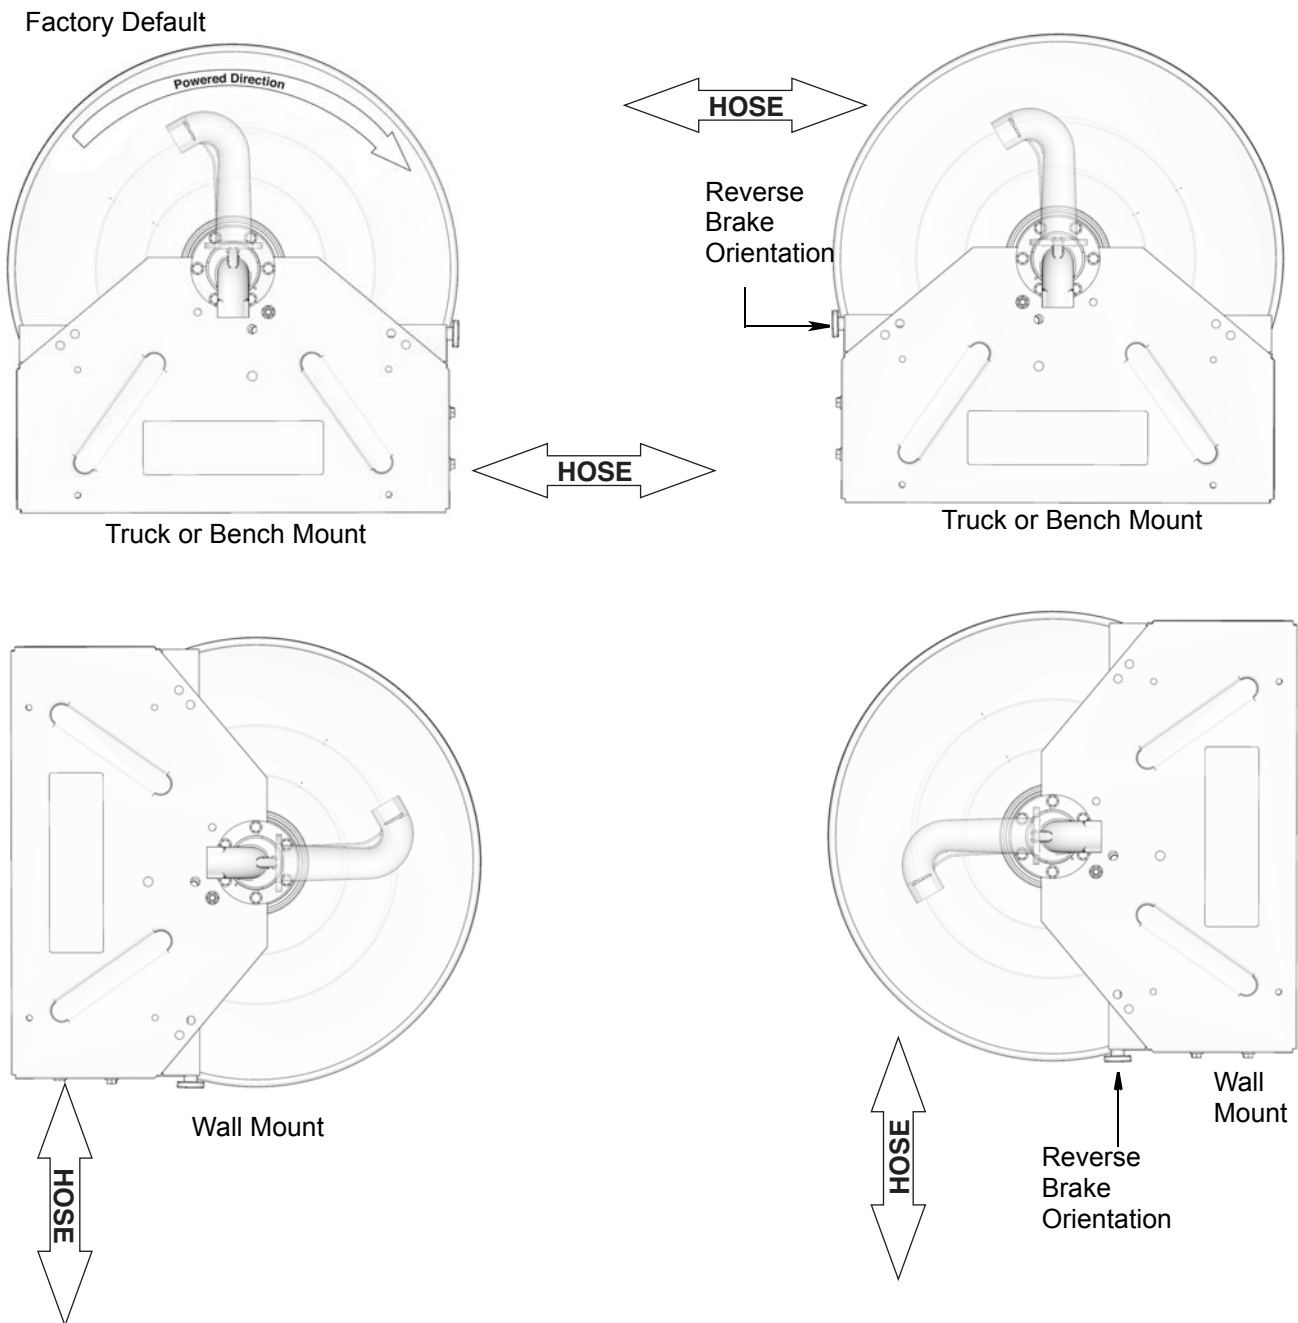
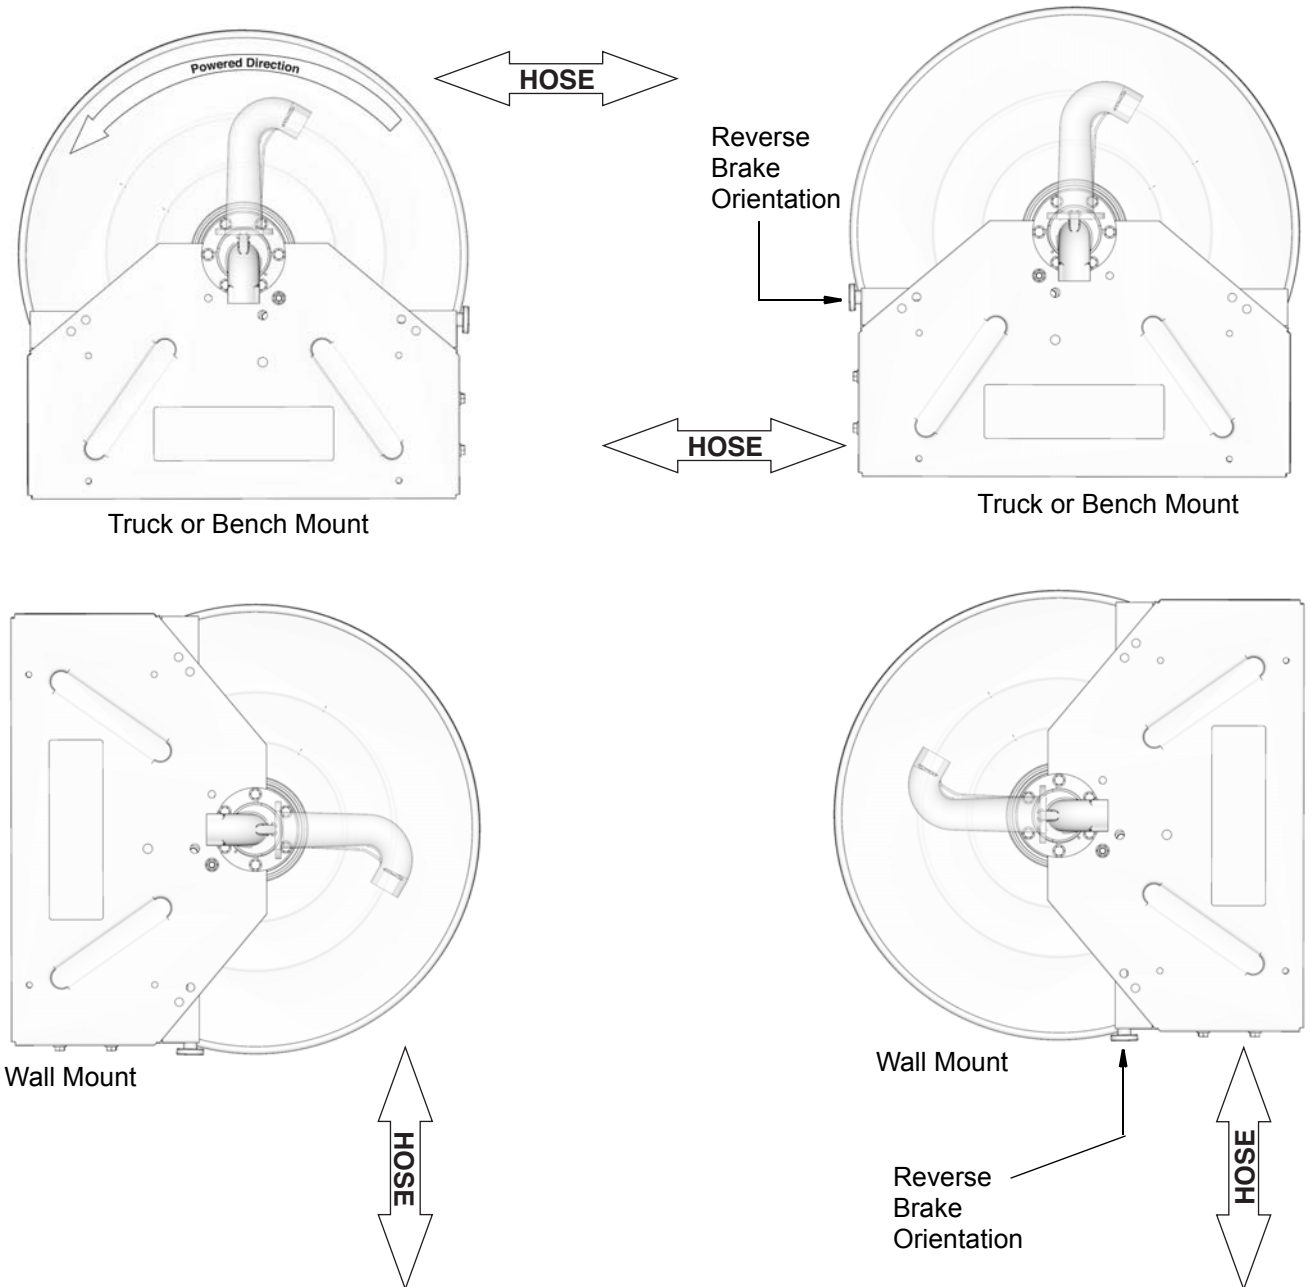

FIG. 22: Inlet Side Shown
FIG. 23: Inlet Side Shown
The outlet (17) orientation and motor (26) rotation can be altered as shown in FIG. 22-FIG. 23.
In the configurations shown in FIG. 22 the motor turns counter-clockwise under power when viewed from the motor side of the reel. All four configurations shown in FIG. 22 have the factory standard motor rotation and outlet orientation.
In the configurations shown in FIG. 23 the motor turns clockwise under power when viewed from the motor side of the reel. All four configurations shown in FIG. 23 require motor (26) rotation reversal and outlet (17) reversal.
3. Determine correct orientation for outlet (17) for your installation location. Refer to Outlet Orientation and Motor Rotation, FIG. 22, page 28 and FIG. 23, page 29.